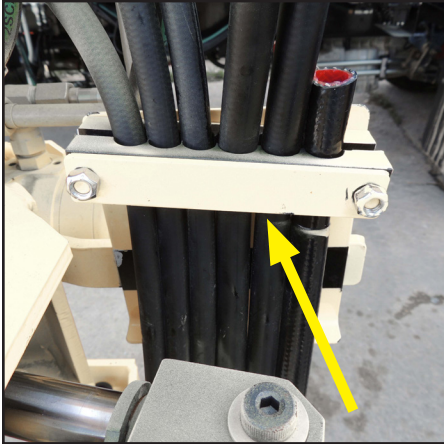

Figure 6
12. At the lower portion of the hose assembly (next to the grabber), use a 9/16" socket wrench to remove and retain the hose clamps, nuts, and washers (Figure 6). Discard the bolts.